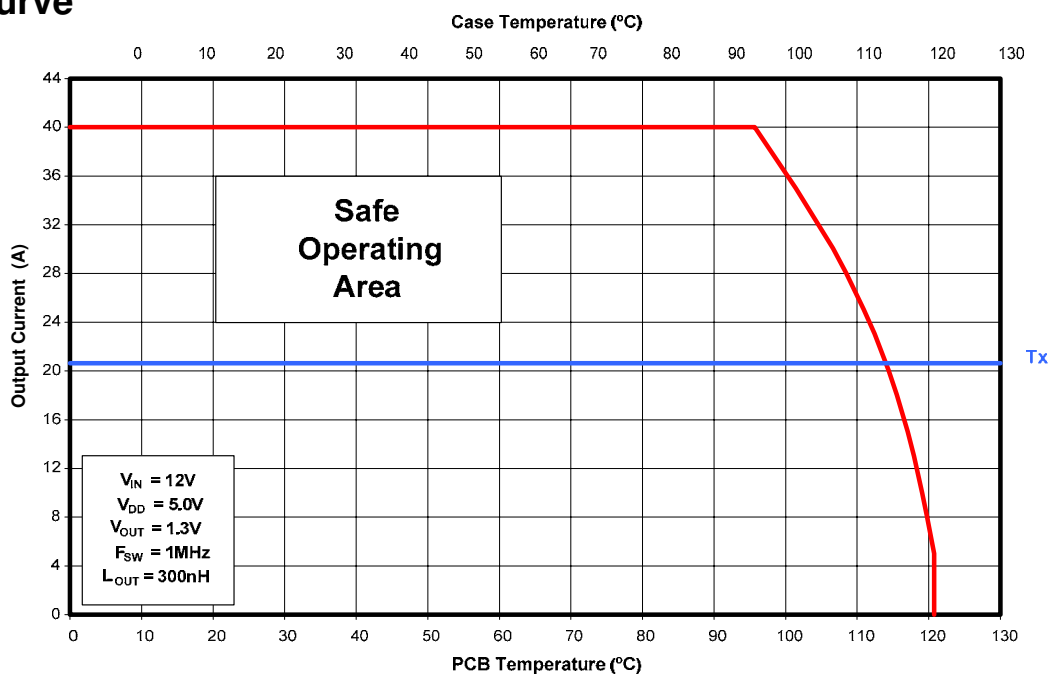

Figure 2 Safe Operating Area Curve
3. Then, add the sum of the SOA temperature adjustments to the  $T_x$  axis intercept in Figure 2